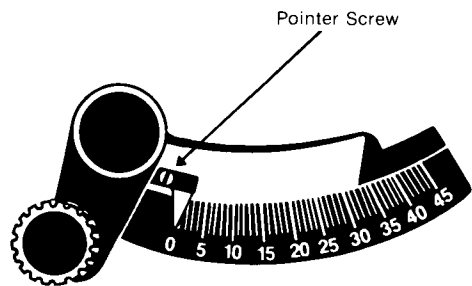

Figure 19
4. With the blade perpendicular to the Table Top, check the bevel pointer on the front of the saw above the label. If it does not point to zero, loosen the screw shown in **figure 19** and move the pointer to indicate zero. Securely tighten the screw. THE BLADE IS NOW 90° TO THE TABLE TOP.